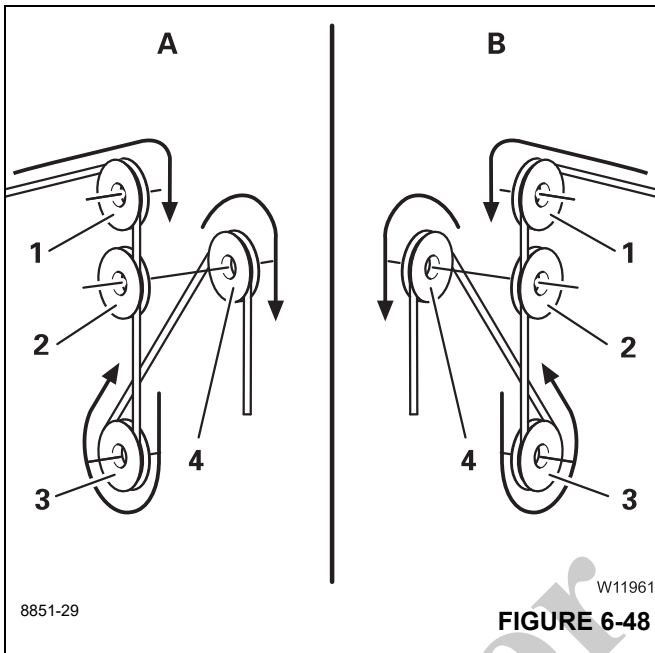

FIGURE 6-48
- Guide the hoist rope over the upper head sheave (1), (Figure 6-48) to the lower head sheave (2), (Figure 6-48).
- Guide the hoist rope from the front around the outer pulley (3), (Figure 6-48) of the hook block, upwards to the main boom head.
- Guide the hoist rope from the rear over the next required head sheave (4), (Figure 6-48), etc.